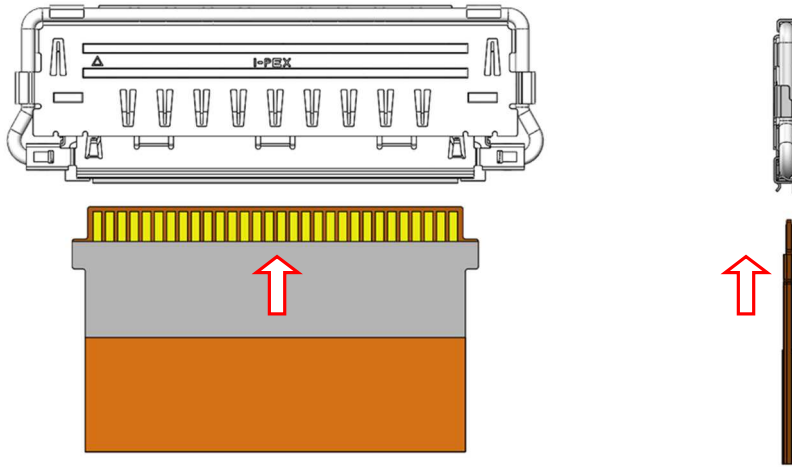

Fig.3 FPC conducting side facing upward
- ① This connector is used top contact point. Face conductor side of the FPC upward and insert it into the shell horizontally as shown in Fig.3.